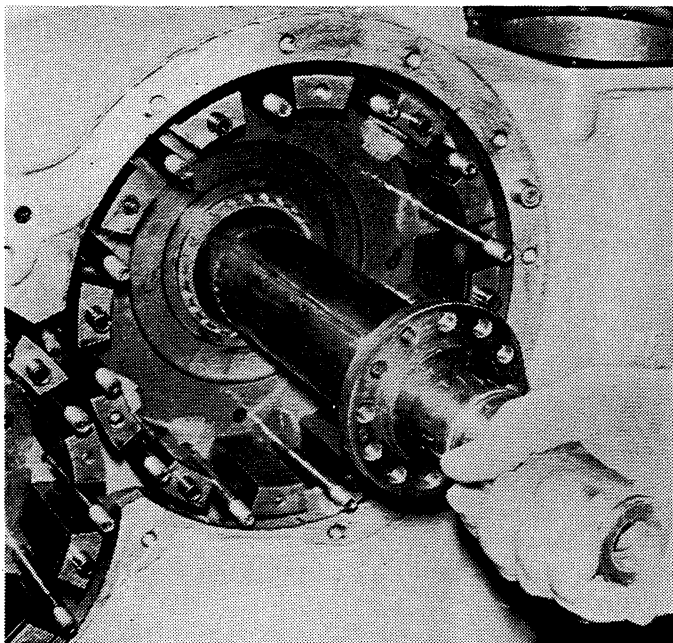

Figure 6-34. Removing or Installing Forward Shaft.
14. Remove the forward and reverse shafts. See Figure 6-34.